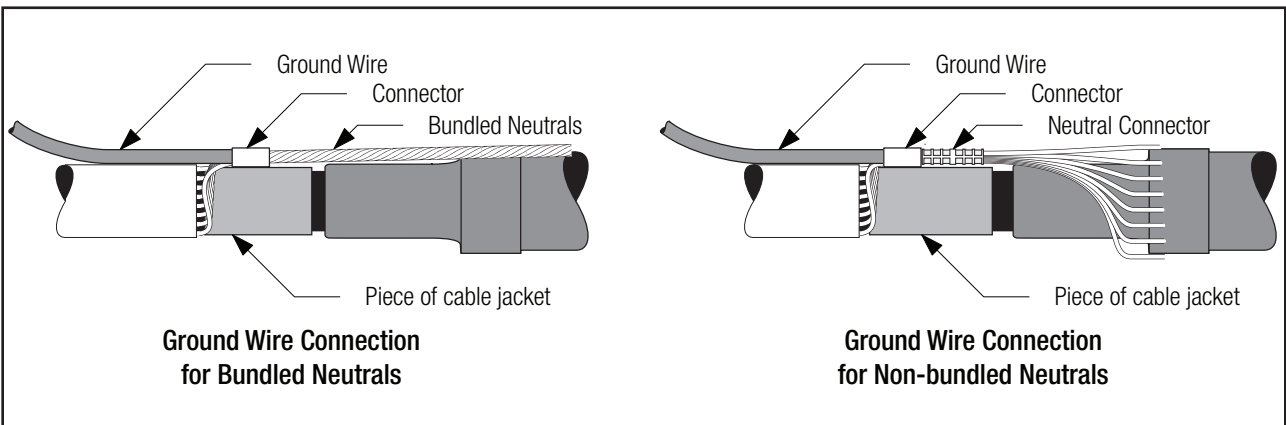

Figure 21
6.1 Connect a ground wire to the neutrals, in the area where the splice diameter is reduced. To protect the cable semicon, place a piece of cable jacket (removed during the cable preparation) under the ground connector. Ensure that the cable jacket piece does not touch the splice body. Keep connector profile as low as possible. For C-Tap or H-Tap connectors, position flat against the cable (*Figure 21*).